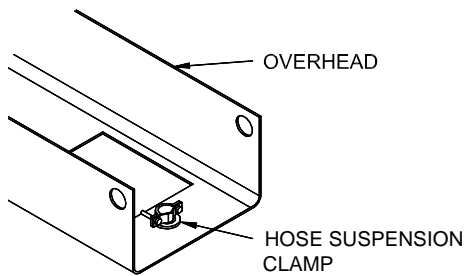

Fig 14
31. Install Hose Suspension Clamps in overhead as shown in **Fig 14**.